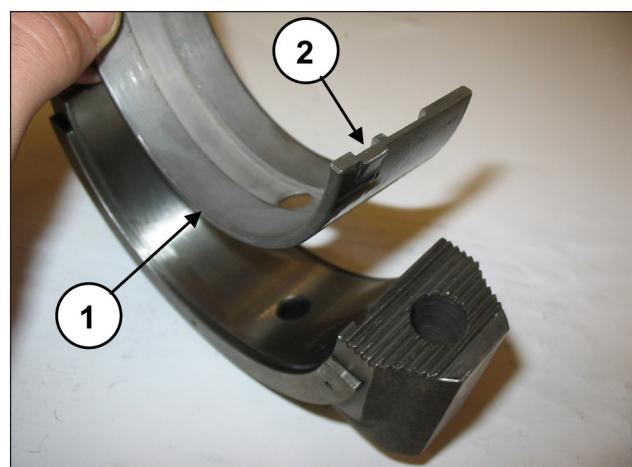
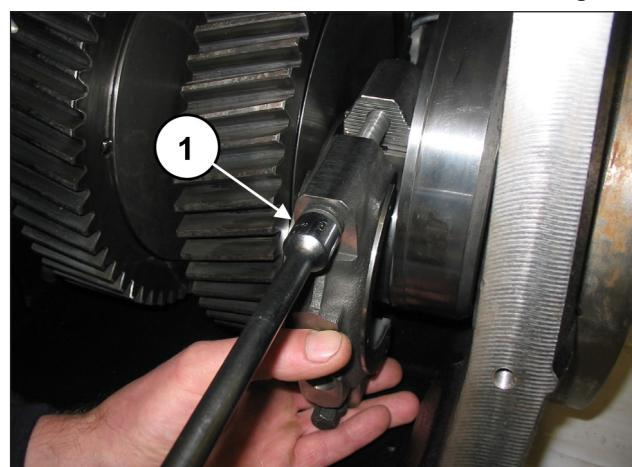

Fig. 82
Fig. 83
Apply the lower half-bearings to the caps (pos. ①, Fig. 82) ensuring that the half-bearing reference notches are positioned in their housing on the cap (pos. ②, Fig. 82). Fasten the caps to the half-conrods by means of M12x1.25x87 screws (pos. ①, Fig. 83).